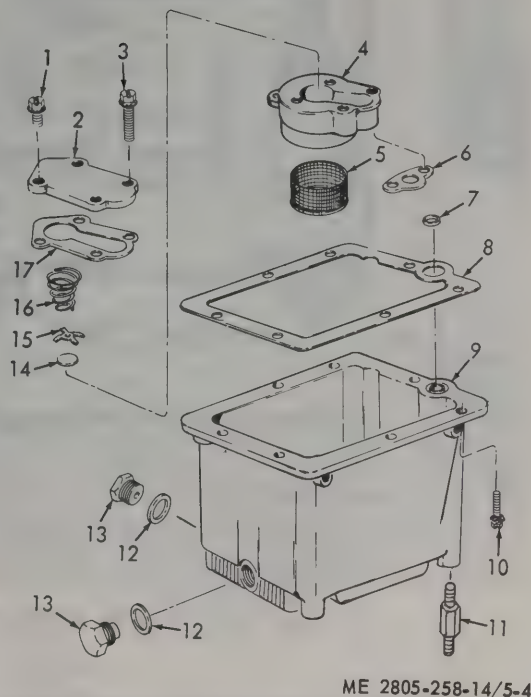

Figure 5-4. Oil pan and check valve, disassembly and reassembly.
b. *Disassembly.* Refer to figure 5-4 and disassemble check valve and oil pan.
(1) Clean all parts with an approved cleaning solvent and dry thoroughly.
(2) Inspect oil pan for cracks and breaks.
(3) Inspect check valve cover and body for cracks and corrosion.
(4) Inspect screen for corrosion and other damage.
(5) Inspect check valve and valve retainer for excessive wear.
(6) Inspect spring for pitting, cracks, and other damage.
(7) Inspect oil drain pressure tube for cracks, breaks, and other damage.
(8) Replace a damaged or defective part.
d. *Reassembly.* Refer to figure 5-4 and reassemble oil pan and check valve.